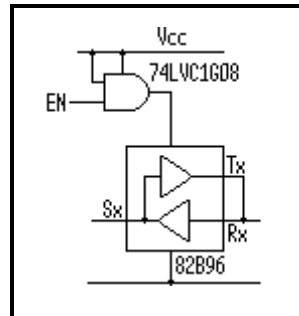

Figure 1. P82B96 Enable Input Configuration
**I2C or SMBus Isolation** - Each PCA9511/13/14/15/16/18 individual repeater channel has an enable/disable feature that is used to electrically isolate that segment of the I2C or SMBus. In addition, all devices except the P82B715 release their I/O pins should their supply voltage fail. When an enable input is required with P82B96 the Picogate circuit in Figure 1 may be used.